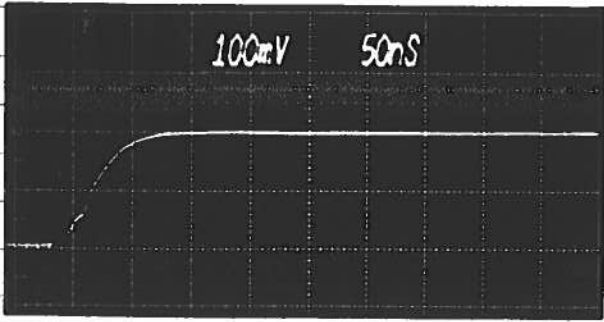
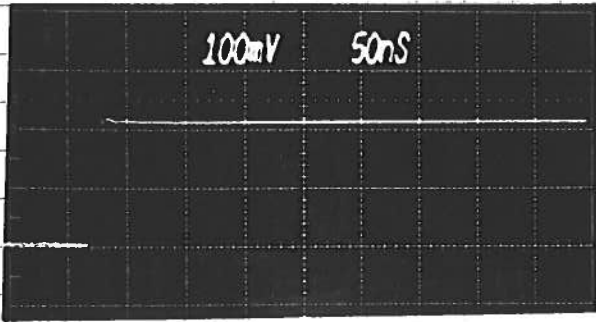

Fig 2
Fig 2A
- 8) Increase AMP 2 to near maximum to obtain display shown in Fig. 2 (adjust DELAY and scope set-up to center waveform display on CRT). With 40 db attenuation on the test jig, the scope reads 10 volts per div (or 200 mA per div). Therefore, set to 2 div to obtain $I_F = 400$ mA. Note that the coupling of OUT 2 to OUT 1 results in the increase of the rise time of OUT 2 to more than 5 ns. This is due entirely to C_B in the test jig. For this reason, C_B should be limited to 1000 pfd. Note that with OUT 1 disconnected, the fast rise time waveform shown in Fig. 2A is obtained.